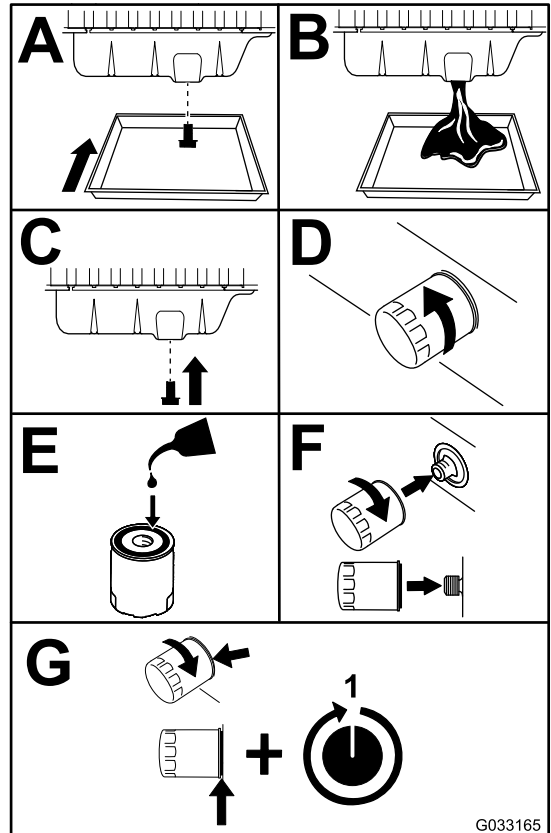

Figure 49
3. Replace the engine oil and filter (Figure 49).